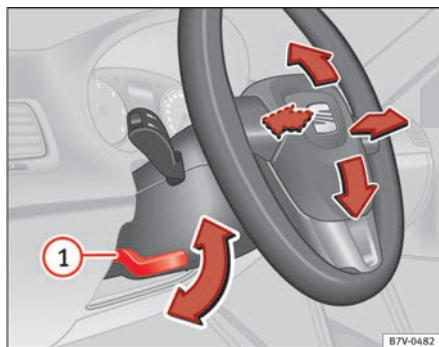

Fig. 126 Mechanical steering wheel adjustment.
- Push the lever ⇒ fig. 126 ① downwards.